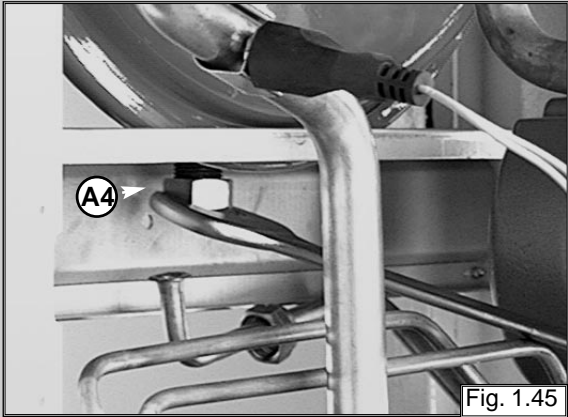

Fig. 1.45
2. Remove nut "A4" (see fig. 1.45);